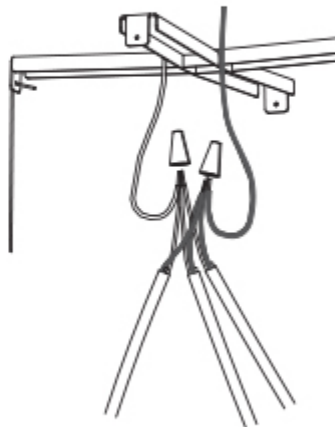

Figure 8
9. Twist the three black pendant cord wires together with the black (hot) wire from your electrical box. Twist on a yellow wire nut to hold the wires together. Then twist the three white pendant cord wires together with the white (neutral) wire from your electrical box. Twist on a yellow wire nut to hold the wires together. (Figure 8)